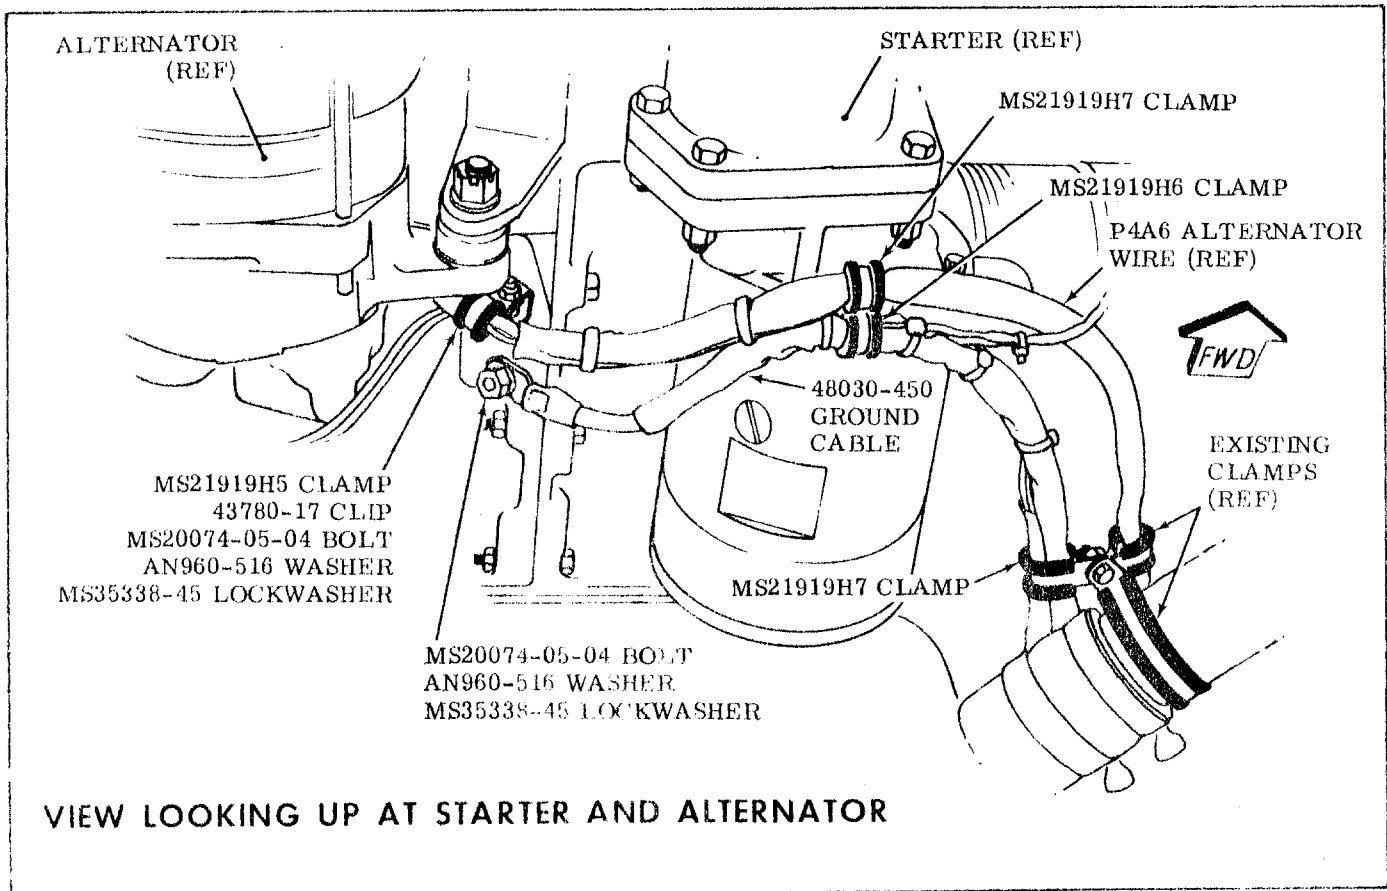

Figure 3.
8. Install 43780-17 clip on engine with MS20074-05-04 bolt, AN960-516 washer and MS35338-45 lockwasher (see Figure 3.).
13. Remove existing clamps in engine compartment and install new MS21919H clamps as shown in Figures 3 and 4.